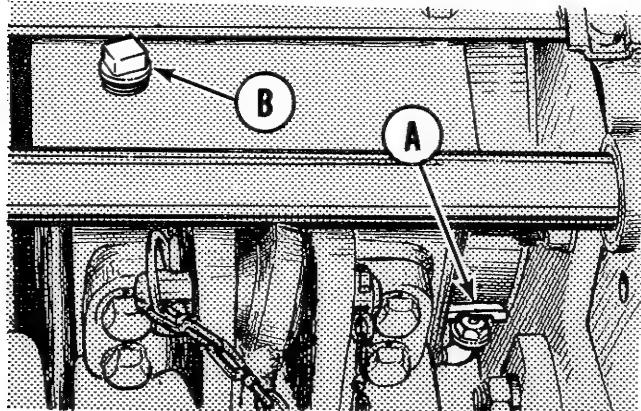

Figure 23. Transmission check cock and filler plug as seen from behind tractor.
See figure 23. The hydrostatic transmission, the tractor hydraulic system and the three speed gear transmission all use oil from the 3 speed transmission case. To check the oil level, turn the check cock (A) shown in figure 23 counter-clockwise two turns or until oil runs out. If no oil runs out of the open check cock, remove the oil filler plug (B) and add type A, type F, or Dexron automatic transmission oil until oil drips from the check cock. Tighten the check cock finger tight.
7. See figure 23. Remove the transmission filler plug (B) and fill the transmission with type A, type F, or Dexron automatic transmission oil to the check cock. About 6 quarts of oil will be required to fill the transmission.